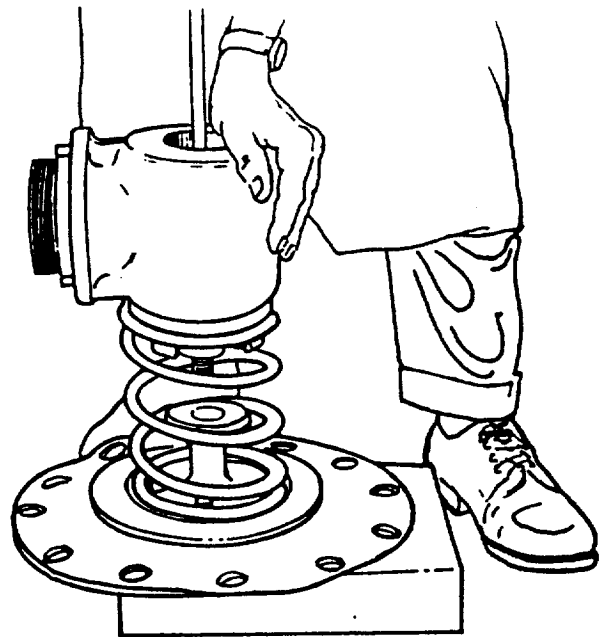

FIGURE 24
- spacer (9). Allow spring to extend. The housing will now lift away from the inside spacer (13) (Fig. 24).
- d. Loosen lower seat (11) with seat wrench.
- f. Loosen and remove upper seat (5) with seat wrench.
- g. Loosen and remove clamp nut (16), diaphragm plate (15) and diaphragm (14).